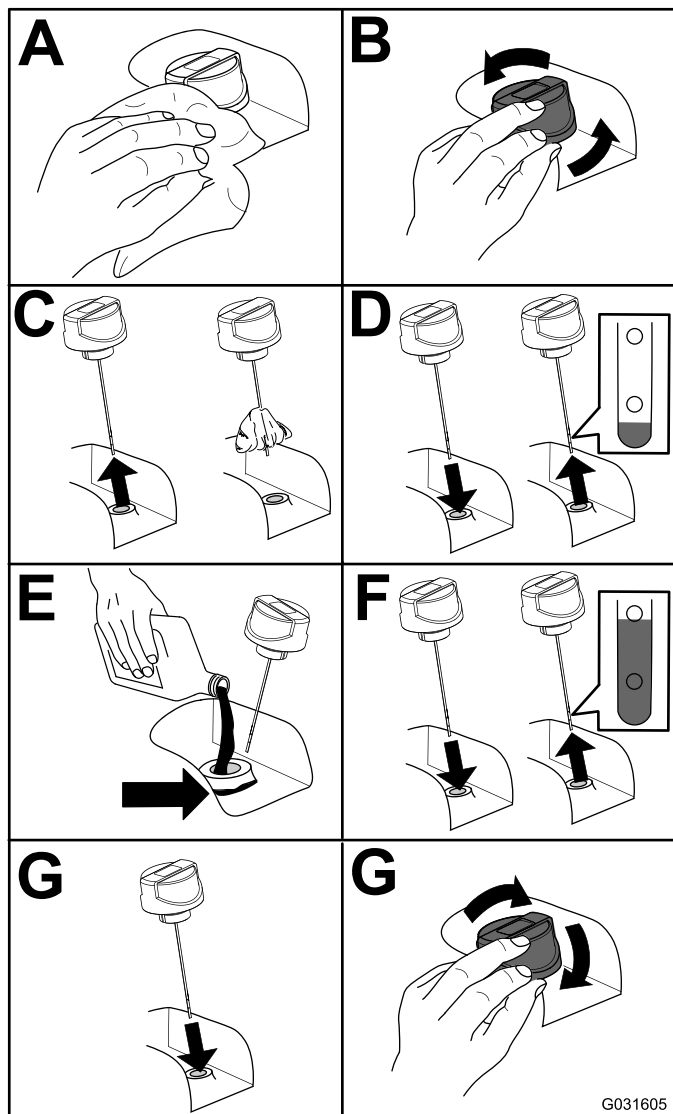

Figure 67
2. Check the hydraulic-fluid level (Figure 67).
5. Fill the reservoir with hydraulic fluid (Figure 67).